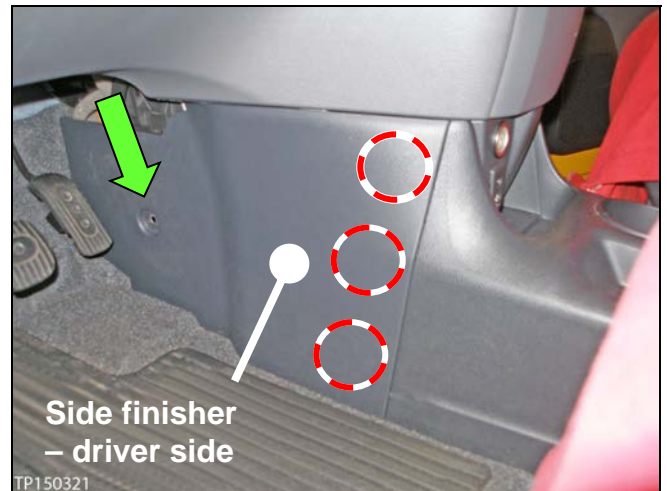

Figure 1
- a. Remove the center console side finishers (see Figure 1).
- Each center console side finisher is fastened with one T20 screw and three (3) snap type clips.